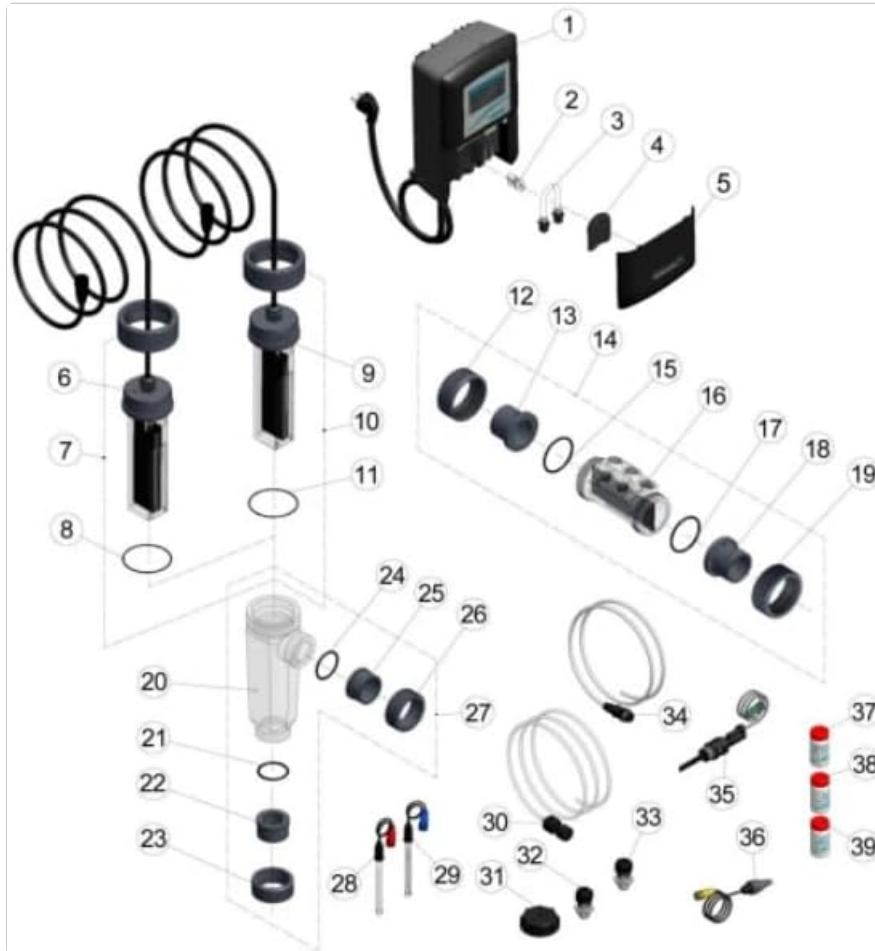

Figure 1: Exploded view of the Bayrol Automatic Salt Electrolyzer system components.
Key Components (Refer to Figure 1):
1. **Prepare the Installation Site:** Ensure the location for the cell housing (component 16 in Figure 1) is accessible and correctly plumbed into the pool's filtration return line, after the filter and heater.
2. **Install Cell Housing:** Securely install the transparent cell housing (16) into the plumbing using appropriate unions (12, 19) and seals (15, 17). Ensure a watertight connection.
3. **Insert Electrolysis Cell:** Carefully insert the AS7 electrolysis cell (components 6, 7, 8, 9, 10, 11) into the cell housing (16). Ensure the O-rings (8, 11) are correctly seated to prevent leaks.
5. **Connect Electrical Cables:** Connect the electrical cables from the AS7 cell to the Bayrol Automatic Salt Electrolyzer Control Unit (1) according to the instructions provided in the main electrolyzer manual. Ensure connections are clean and dry.
7. **Power On:** After confirming no leaks, restore power to the Automatic Salt Electrolyzer Control Unit (1) and proceed with system calibration as per the main electrolyzer manual.